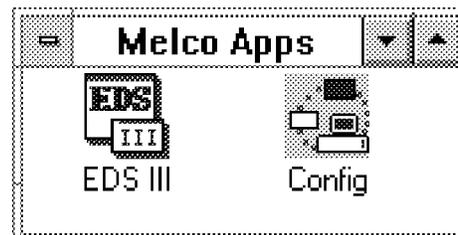

Figure 3-1
2. Locate the Melco Apps group (see Figure 3-1) inside the Windows Program Manager window and double click on the EDS III Icon with the computer mouse to start EDS III.